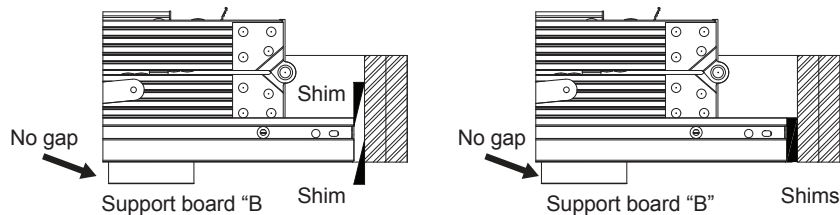
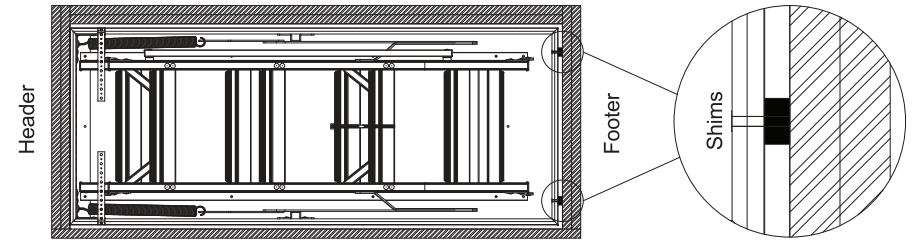

Figure 7 Shimming the footer
Figure 7.1
J. Installers #1 & #2: Place shims from below and above between the aluminum frame and the rough opening at the footer end to keep the opposite end (header/hinge end) centered within the rough opening and tight against the header board. See Figure 7. Shims should provide uniform support so there is no twisting or bowing of the aluminum frame. Center shims at the (2) footer bushing locations. See Figure 7.1. Make sure the attic ladder is resting firmly on the temporary support boards and has not lifted.